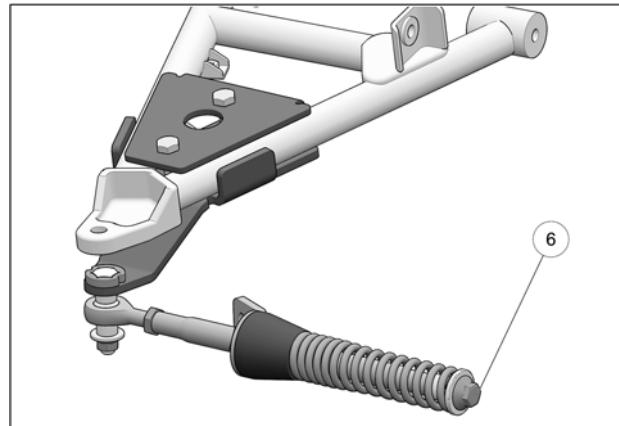

Fig. 17
- Verify that spring assembly bolt (6) is tightened to the recommended torque specification: 75 N·m [55 lb·ft]. Refer to Fig. 17